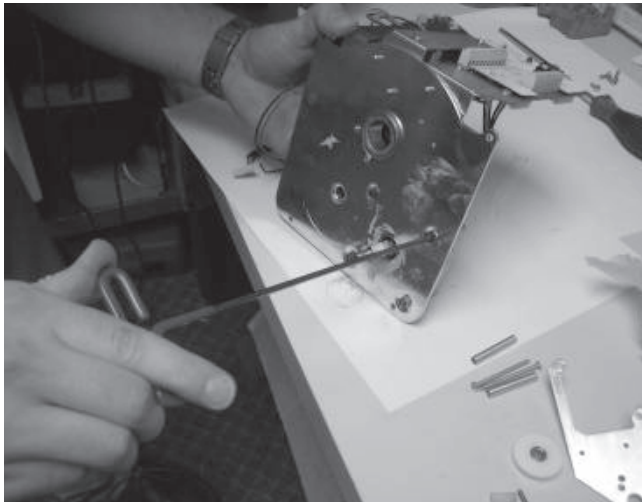

Figure 19.
- 4.21 Once all the screws are hand-tight, fasten securely with a 9/64" hex wrench, see Figure 19.